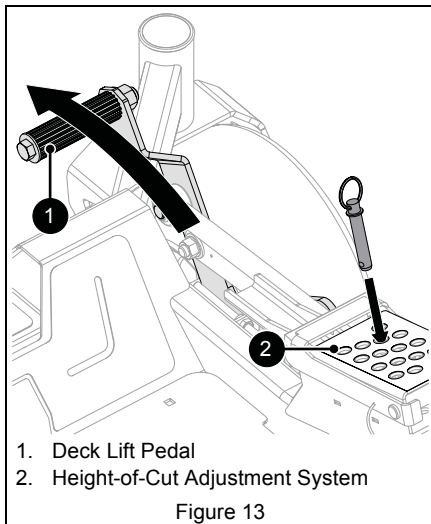

Figure 13
5. Set cutting height. See Figure 13.